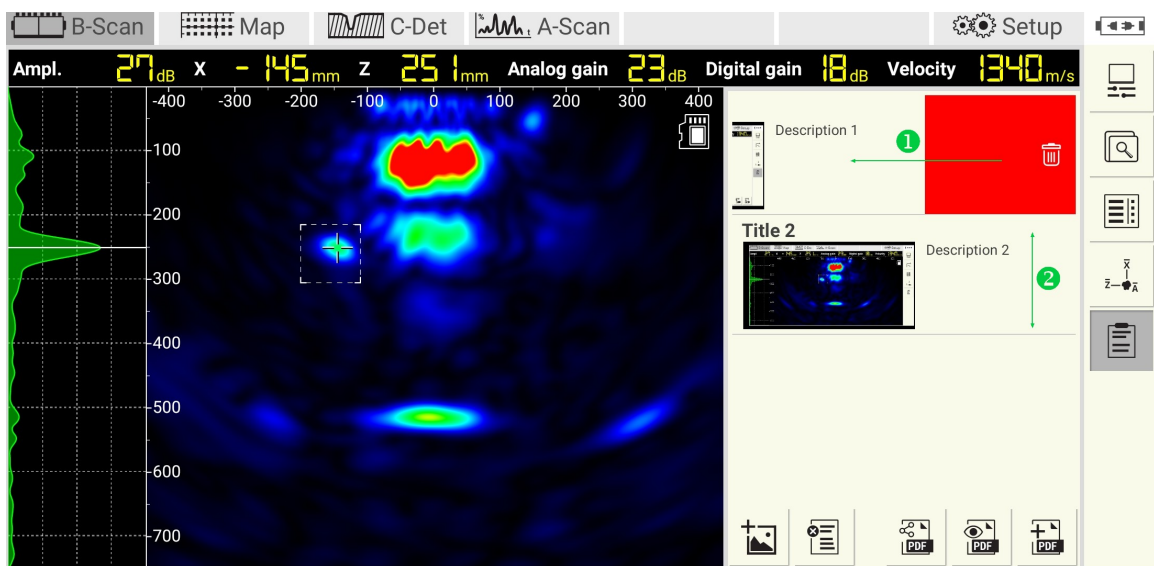

Figure 18: Working with list of screenshots
Delete a screenshot from the list by swiping the item from right to left, see ① on Figure 18. While swiping, the basket is going to replace the item. Confirm the deleting with YES or abort with NO.